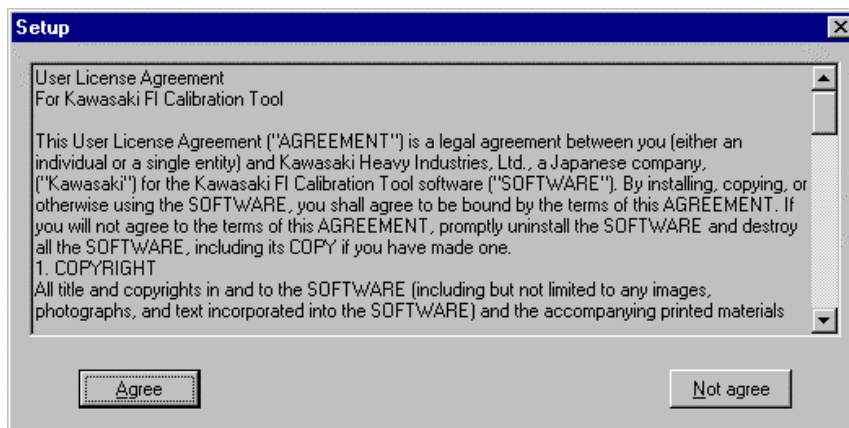

Fig. 3 Product License Agreement
- (3) The Product License Agreement screen shown in Fig. 3 appears.